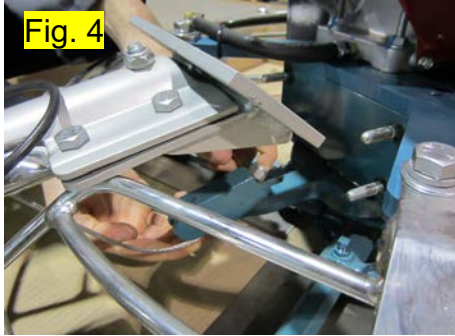

Fig. 4
Step 3: Install pitch control cable to yoke and install locknut loosely (Fig. 4). If needed, turn pitch control knob counter-clockwise until the stop screw is at the lowest position (Fig. 5).